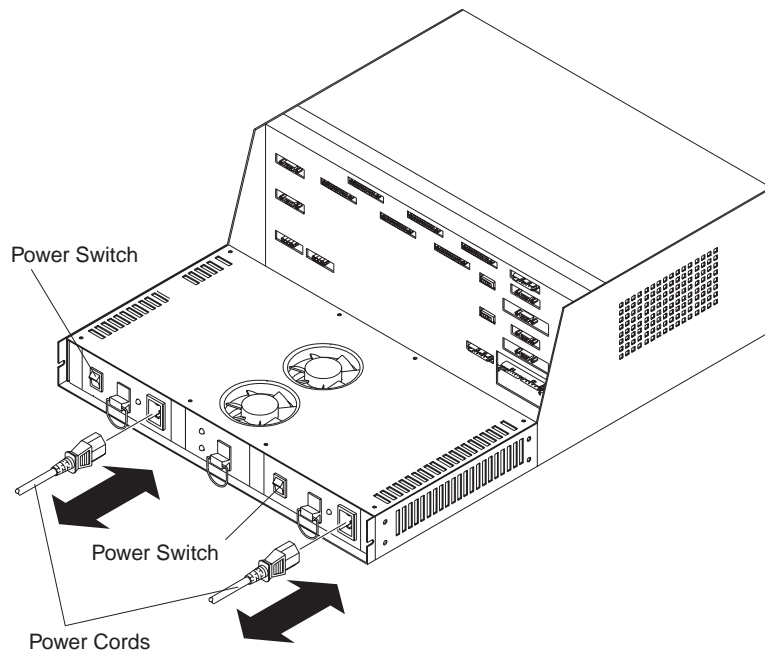

Figure 36. Power Cords and Power Switches
1. Make sure that both power switches on the controller unit are turned off (Figure 36).
2. Plug both power cords into the controller unit (Figure 36).
- c. Both power switches on the back of the controller unit (Figure 36)